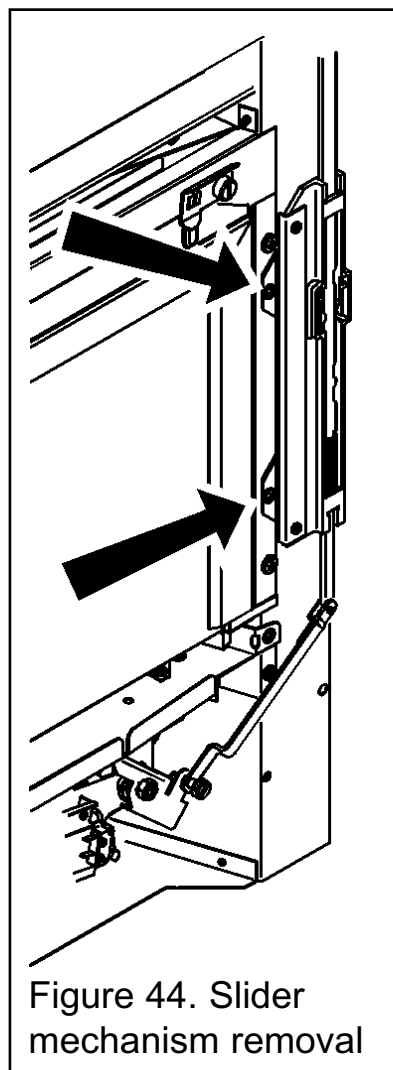

Figure 44. Slider mechanism removal
3. Detach the slide unit by removing two screws securing it to the convection box flange (See figure 44).